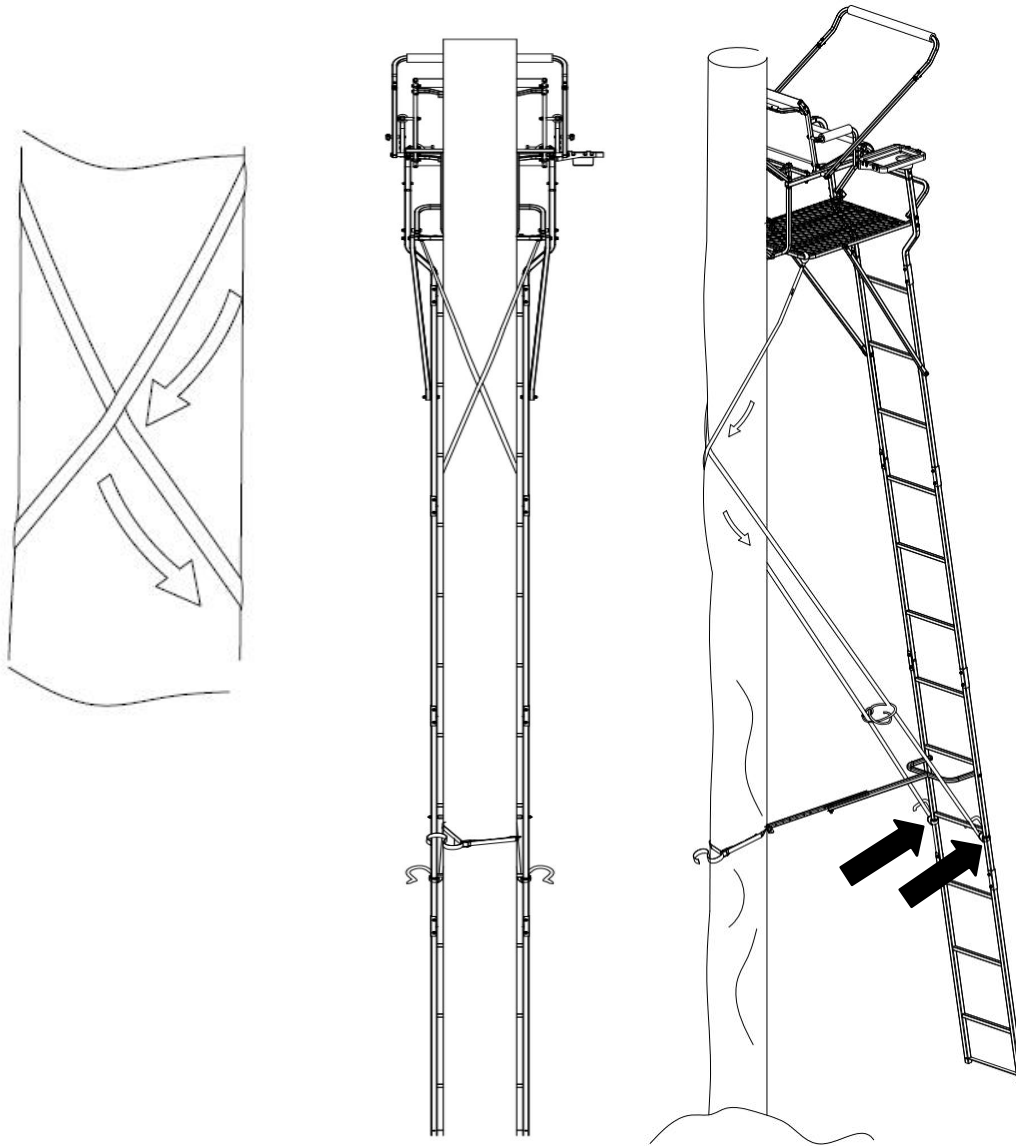

Figure 25
STEP 7: Now take the stabilizer straps and crisscross them behind the tree trunk so straps cross just below platform and pull them snug and tie them to a rung on the middle ladder section (or the highest rung you can safely reach from the ground) as shown in Figure 25.